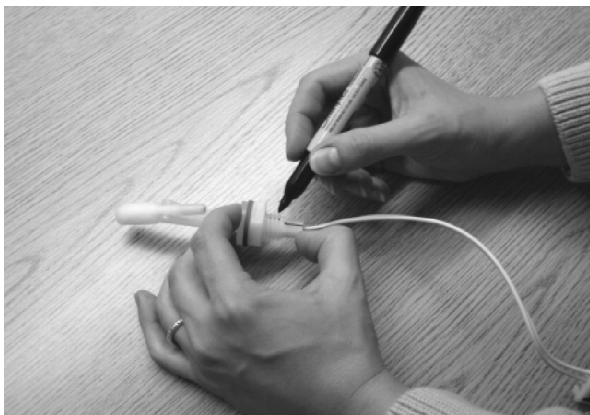

FIG. 4
2. Mark the top edge of the threaded end of the float switch with a permanent marker. The top edge must be positioned at 12:00 for the float to function. Refer to Fig. 4.